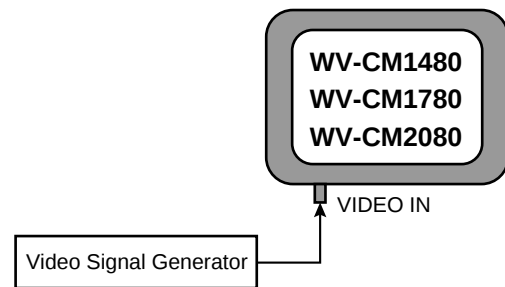

Fig 3-1
- Fig. 3-1 shows the connecting diagram for adjustment of the WV-CM1480/WV-CM1780/WV-CM2080.